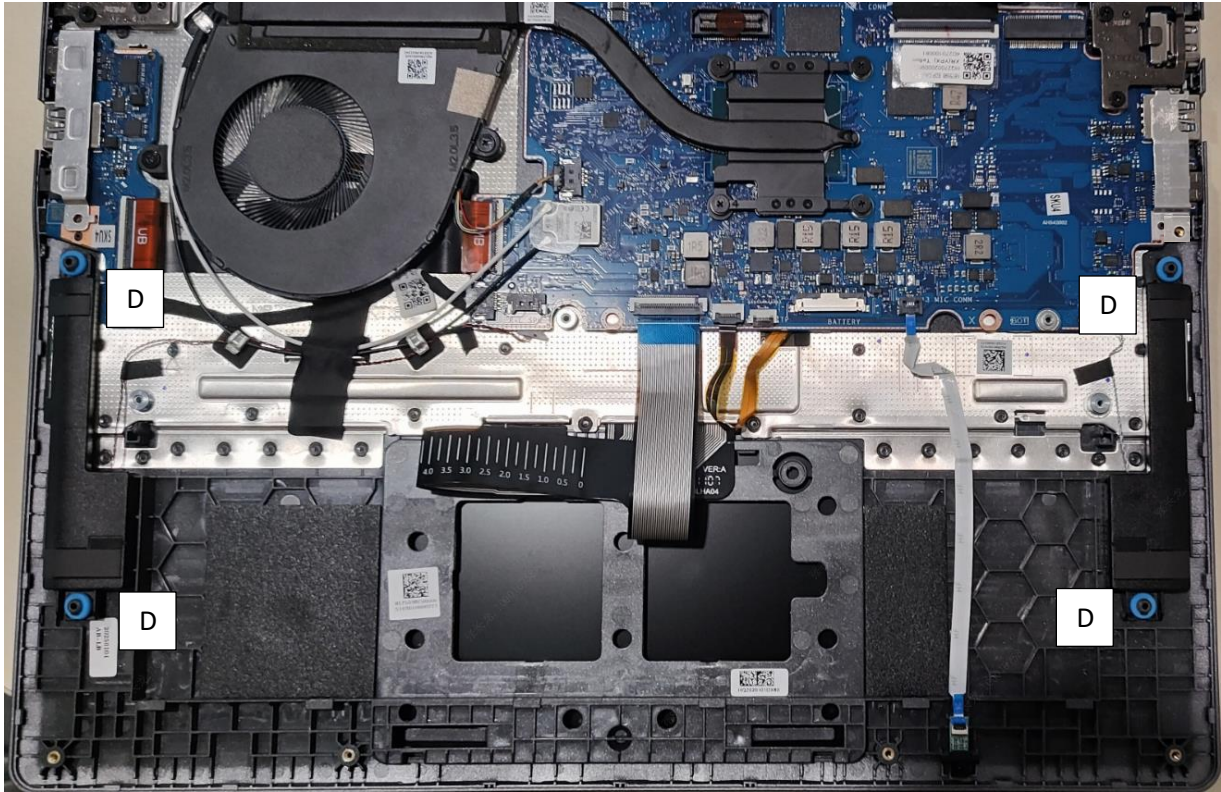

Figure 3-21. Speaker Module Removal
4. Lift the speakers to release them from the guide pins (D) (Figure 3-21). Then remove the speakers from the top assembly.